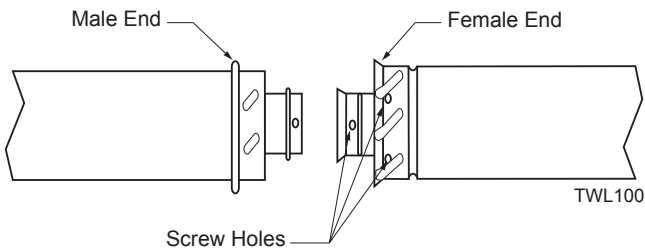

Figure 14 - Twist-lock Pipe Joints
To join twist lock pipes together, simply align the beads of the male end with the grooves of the female end, twisting the pipe until the flange on the female end contacts external flange on the male end. It is recommended that you secure the joints with three (3) sheet metal screws, however, this is not mandatory with twist lock pipe. *Figure 14*